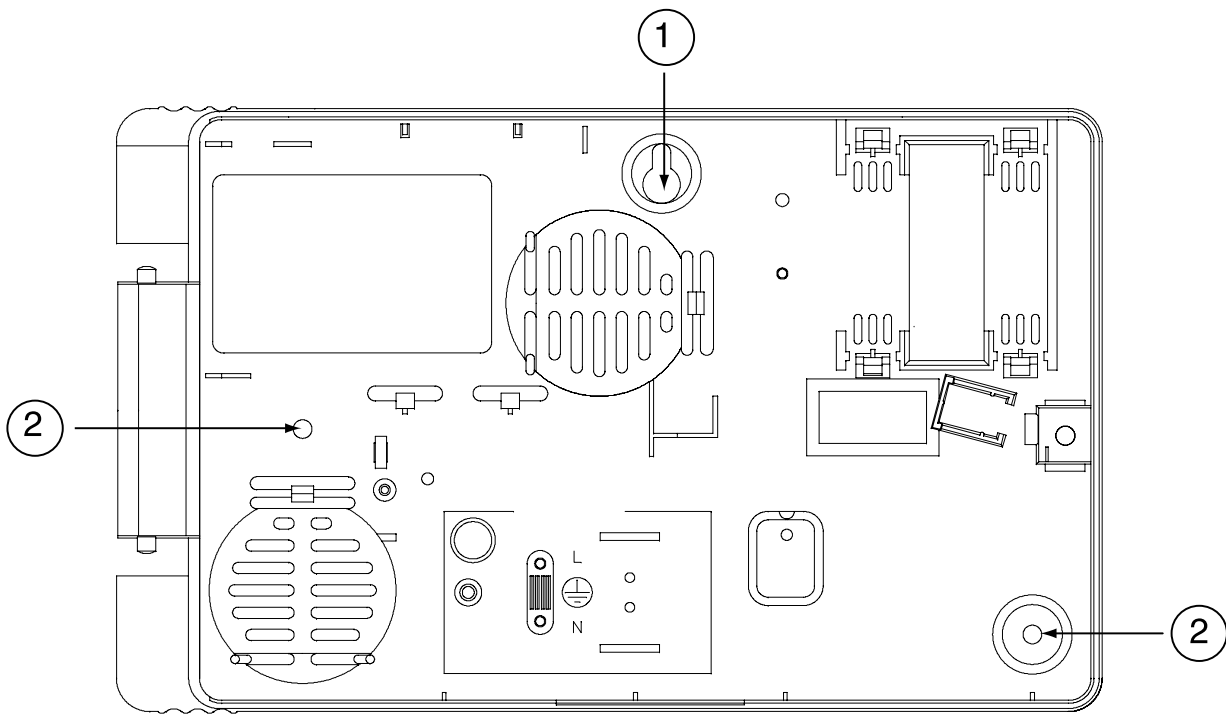

Figure 5. Mounting Hole Positions
4. Hold the case against the wall and mark the position of the key hole (1 on Figure 5).
7. Mark the position of the other fixing holes onto the wall (2 on Figure 5).